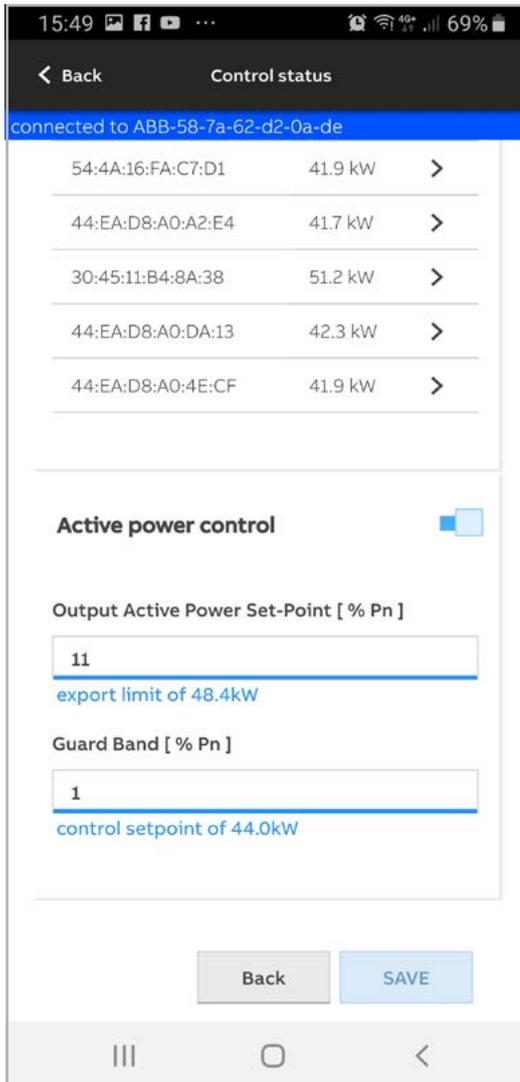

Figure 23 - Export monitoring: adjust settings
- Figure 23 - Export monitoring: adjust settings